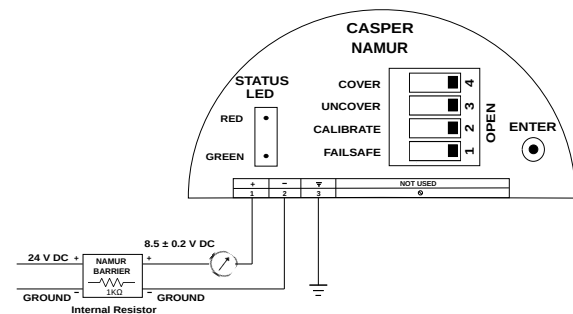

Figure 49: Electrical Connection during installation
Please refer to the Figure 49 for electrical connections while connecting the instrument in an application tank.
- Refer to given Figure 49 for Electrical Connections to power up and connect the device.